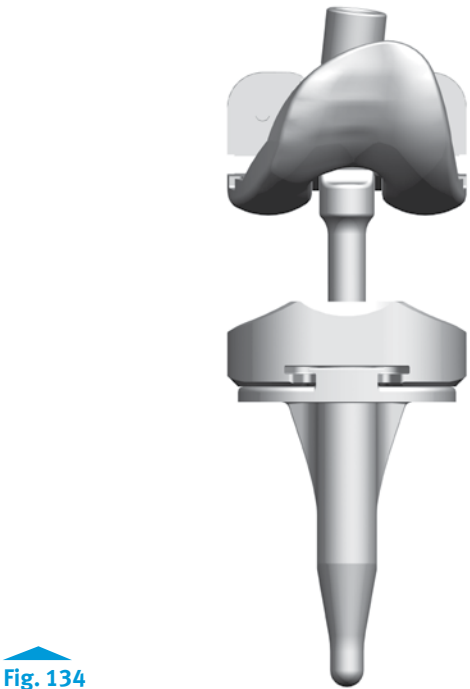

Fig. 134
- As the Hinge Post approaches the tibial component, distract the joint and simultaneously engage the cylindrical portion of the Hinge Post through the Articular Surface and into the tibial component (Fig. 134).